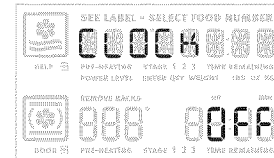

Fig. 3
2. Use the +hi & -lo to toggle to the CLO off option -Fig. 3-.	+ - hi or lo